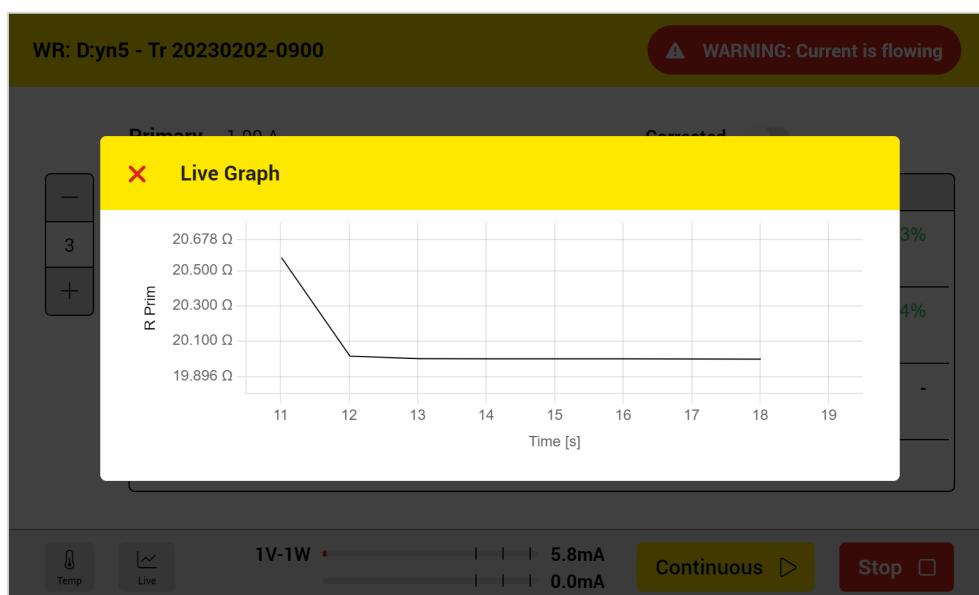

Figure 55: Winding resistance live graph
- 3 Here you can open the live graph to see the live resistance curve over time (Figure 55). It is visible only during a measurement
Figure 55 is the live graph which shows the live resistance curve over time.